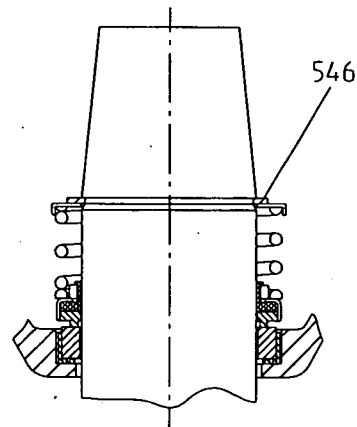

Fig. 14
2.9.1.1 REMOVAL OF PUMP SIDE MECHANICAL SEAL (515)
a) Exposed-spring seal - type "C" (Fig. 14)